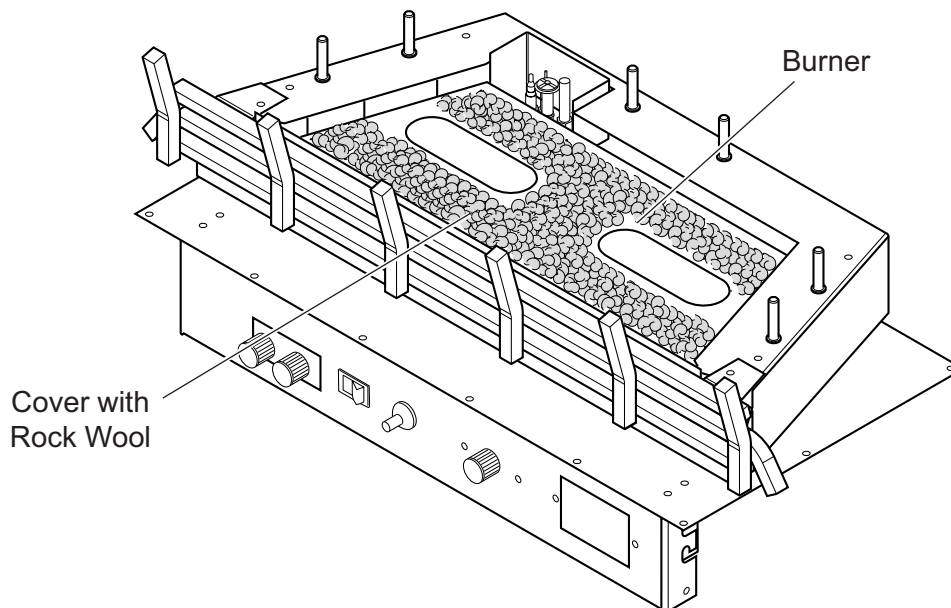

Figure 43 - Placement of Rock Wool on Burner
3. Distribute one layer of rock wool to cover all burner ports. Fill front gap between grate and burner. See *Figure 43*.